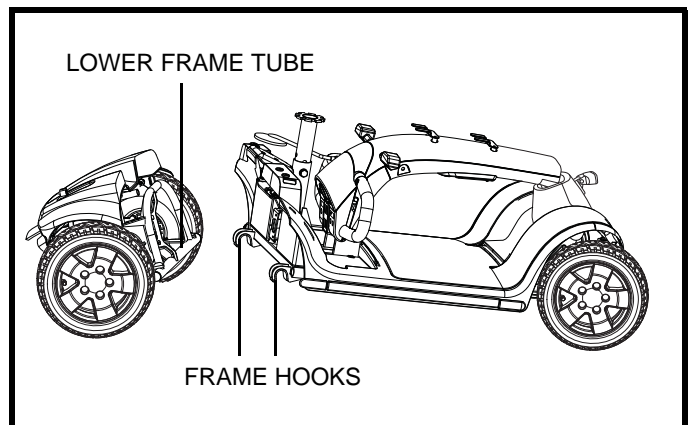

Figure 24. Frame Separation
4. Lift the front section up until the frame hooks of the front section separate from the rear section. **See figure 24.**
5. Slowly separate the two sections. **See figure 24.**
1. Position the front and rear sections of your scooter as shown in **figure 24.**